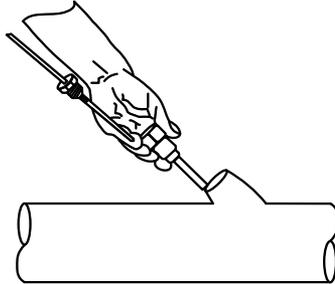

Figure 5: Typical RTD installation
1. Insert the RTD probe into the thermowell to determine the depth setting for the probe spring (Figure 5).